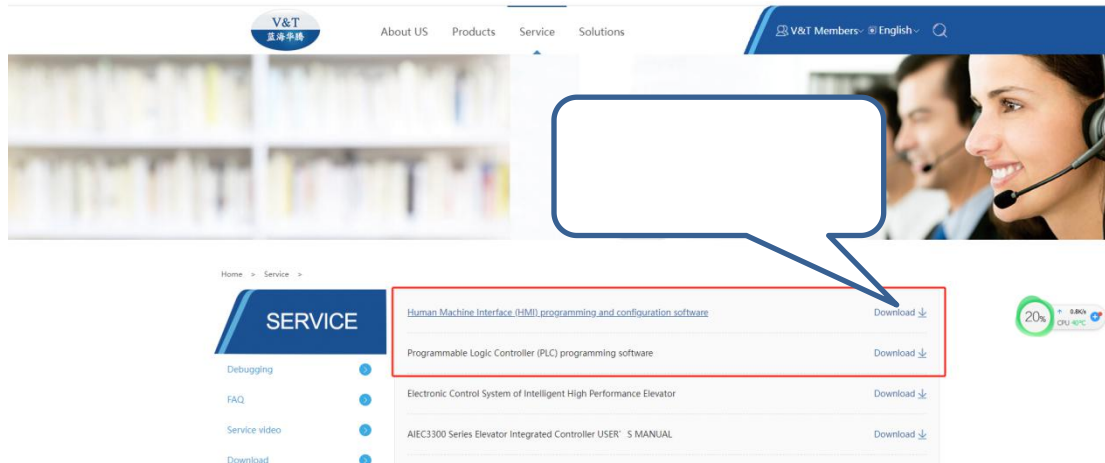

Fig. 6
The software “DP Studio” can be downloaded from www.v-t.com. This version just suitable to the windows operating system (OS), as shown in Fig. 6. Thus, the software “DP Studio” run in windows 7, 10, 11 which is accessible.